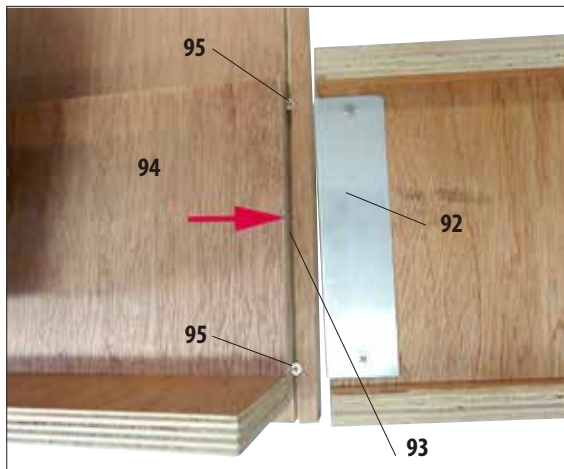

Fig. 9
- Hook these rails on the left and right with the panel (92) into the groove (93) of the pallet so that they are flush with the wooden board (94) that holds the instrument (Fig. 9).